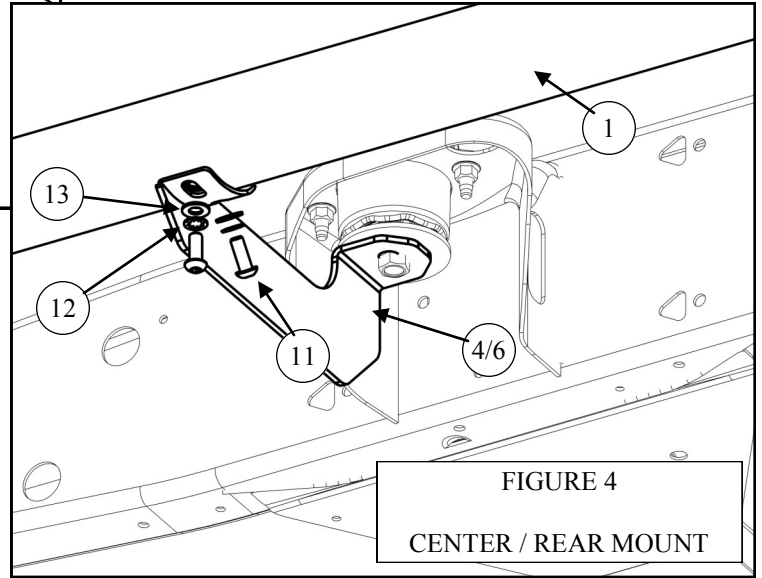

FIGURE 4
5. The center mounting bracket is attached to the step bar using the provided (x2) M10 button head screws, (x2) lock washers, then (x2) flat washers. FIGURE 4